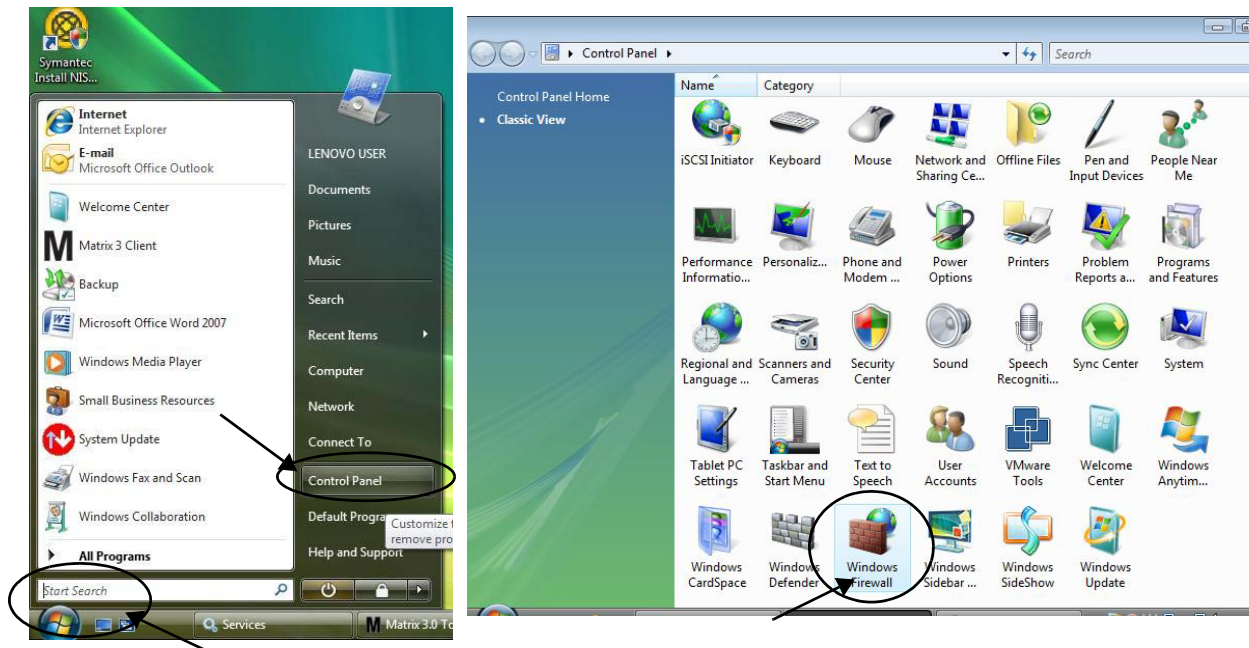

FIG. 32
1. Click on Start/Control Pane. Then select Windows Firewall (FIG. 32).